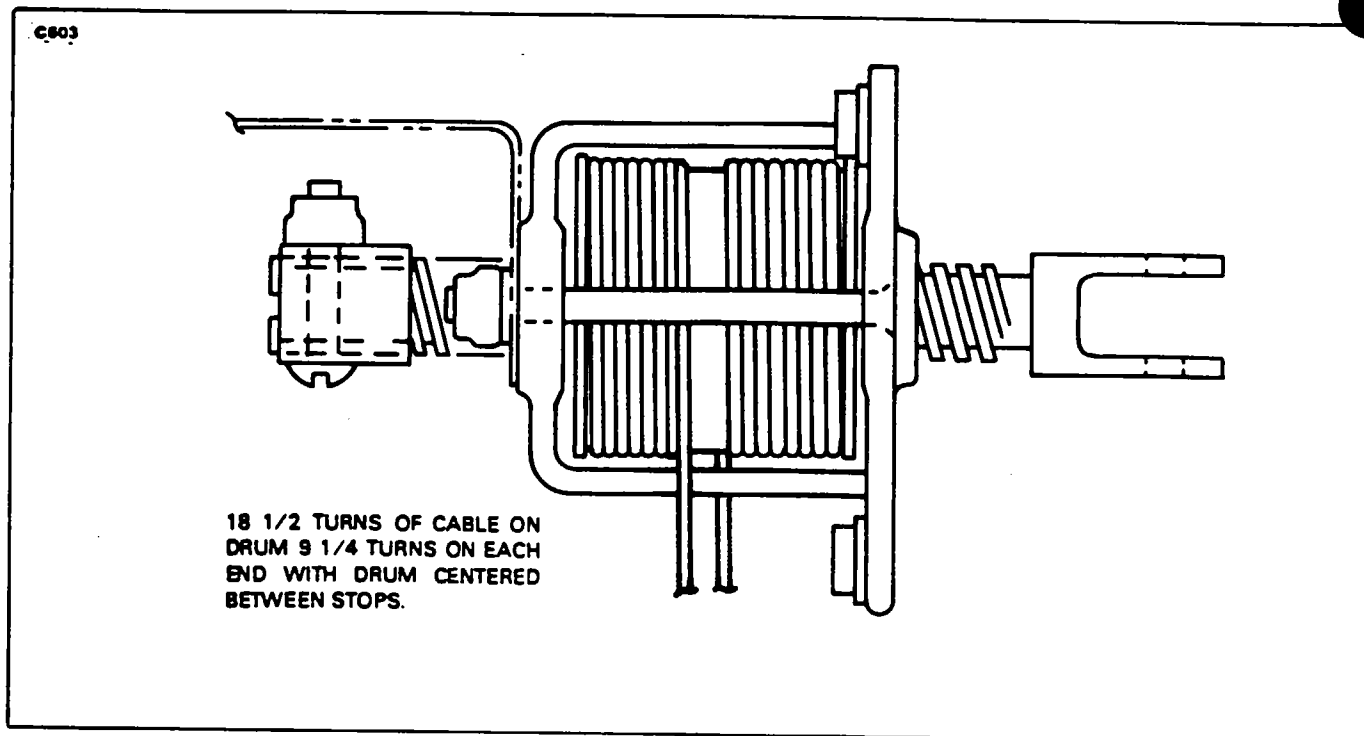

Figure 27-12a. Wrapping Aileron Trim Drum (Wing)
WRAPPING AILERON TRIM DRUM (WING). (Refer to Figure 27-12a.)
8. Insert the drum in the housing bracket, position the drum and route the cables from the assembly as shown in Figure 27-12a.